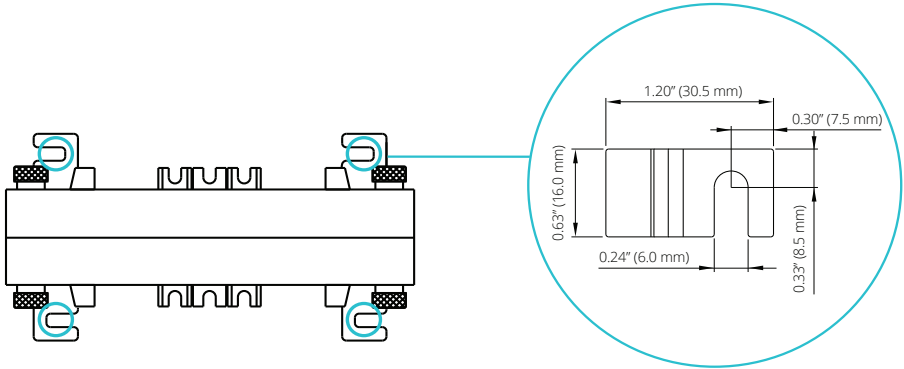

Figure 8 Top-View of the CT and Mounting Brackets with Dimensions of the Mounting Clips
1. Position the current transformer on the mounting surface and as shown in Figure 8, insert
- Secure the mounting base plate using four M5 or M6 screws and tighten until the current transformer is securely mounted. Refer to Figure 8 for mounting clip dimensions and hardware clearance requirements.